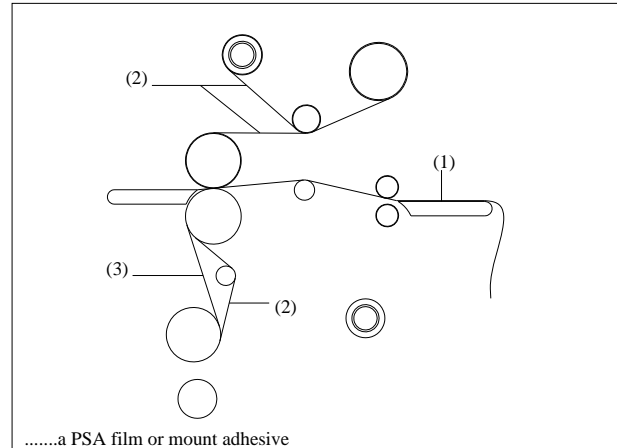

FIGURE 30
1. Using the rear slit, cut (1) the output from the web (Fig. 30).
2. Cut (2) remaining top film web between the idler bar and heat roller. PSA film cut the release liner too.
3. Cut (3) the film web between the lower film supply and the idler bar (Fig. 30).